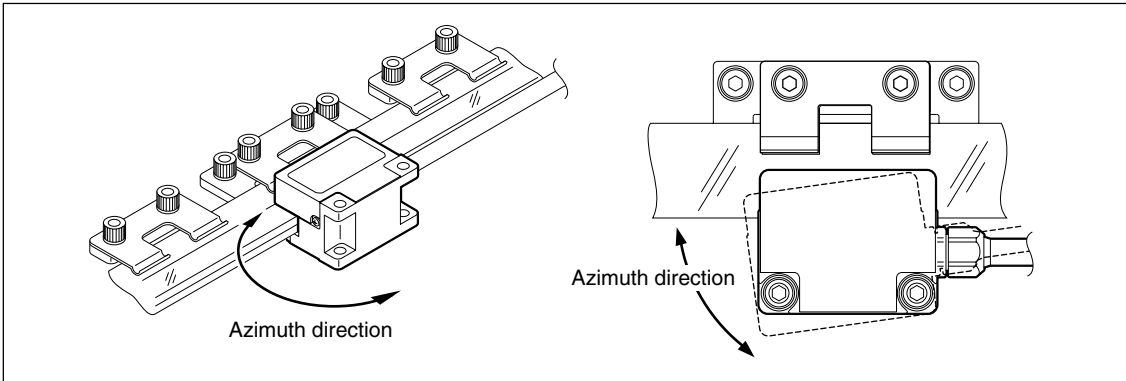

Fig. 3-14
- 2 Rotate the detector head as shown in Fig. 3-14, until you find the point where the amplitude of the Lissajous' figure is at a **maximum**.